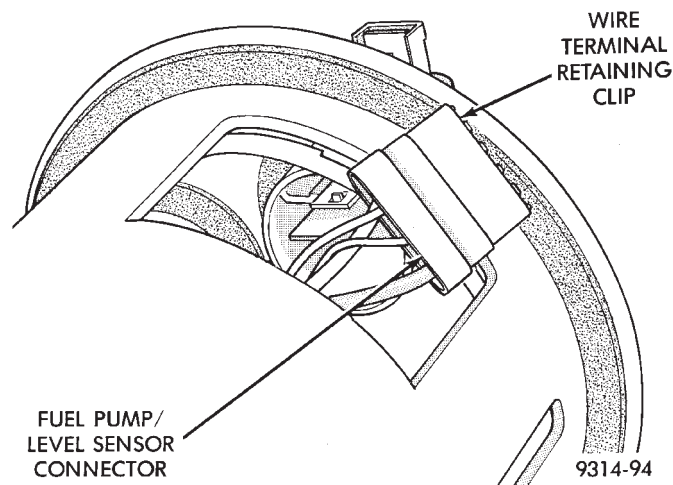
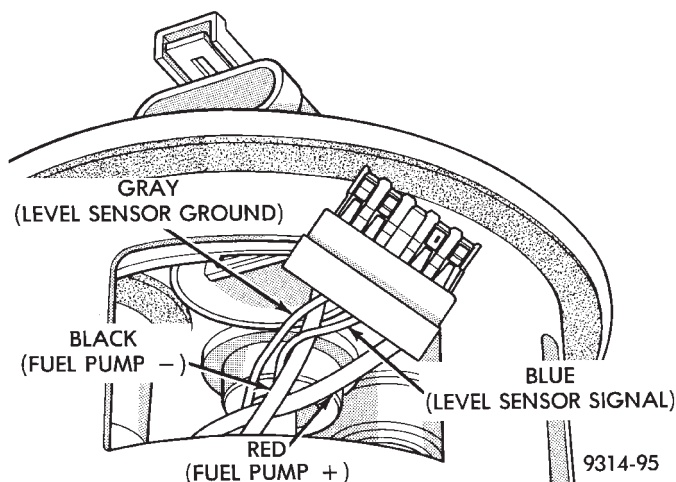

Fig. 31 Wire Terminal Retaining Clip
Fig. 32 Wire Terminal Identification
(2) Remove wire terminal retaining clip from connector (Fig. 31). Note the location of terminals for the level sensor wires (Fig. 32).
(4) Install level sensor wires in connector. Push the wires up through the connector and then pull them down until they lock in place. Ensure signal and ground wires are installed in the correct position (Fig. 32).
(5) Install retaining clip on connector.
(6) Push fuel pump/level sensor connector up into bottom of fuel pump module electrical connector.
(7) Install fuel pump module. Refer to Fuel Pump Module in this section.